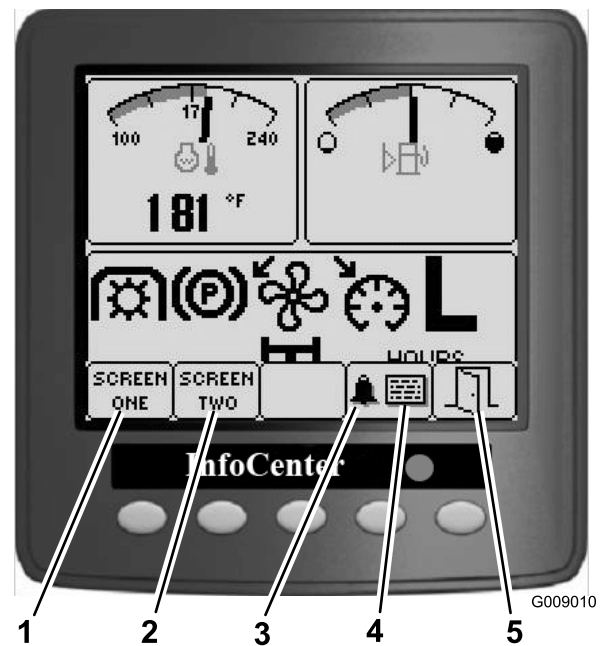

Figure 14
- Press the corresponding button to view screen 1 or screen 2, to stop audible alarm, to view fault screen or to exit (Figure 14).